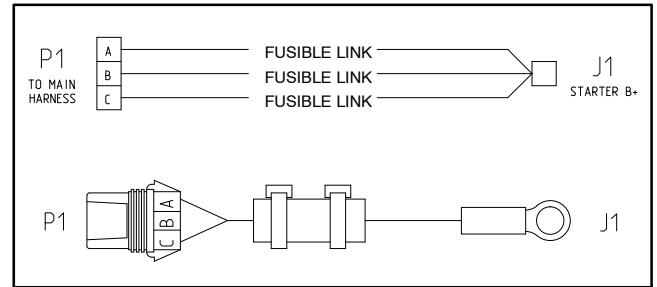

Figure 12
The Workman MDX-D uses four (4) fusible links for circuit protection. Three (3) of these fusible links are included in a wire harness that connects the starter B+ terminal to the vehicle wire harness (Fig. 12). The remaining fusible link is included in the engine wire harness and connects the starter G terminal to the engine run solenoid pull coil. If any of these links should fail, current to the protected circuit will cease. Refer to the electrical schematic and wire harness drawings in Chapter 7 – Electrical Drawings for additional circuit information.